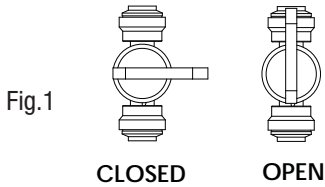

Fig.1
- Using a suitable set of pliers, close the filter bypass valve as instructed in Figure 1.